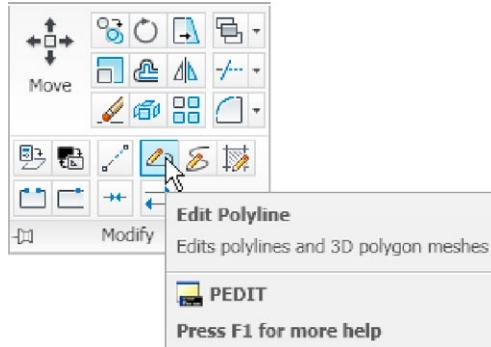

Fig. 3.41 Calling **Edit Polyline** from the **Home/Modify** panel
2. Call the **Edit Polyline** tool either from the **Home/Modify** panel (Fig. 3.41) or from the **Modify** drop-down menu, or by *entering pe* or *pedit* at the command line, which then shows: